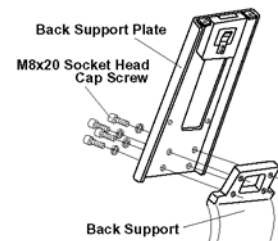

Fig.3-4 Fixing Back Support Plate
- (7) Fixez la plaque support arrière du dossier (Fig 3-4)